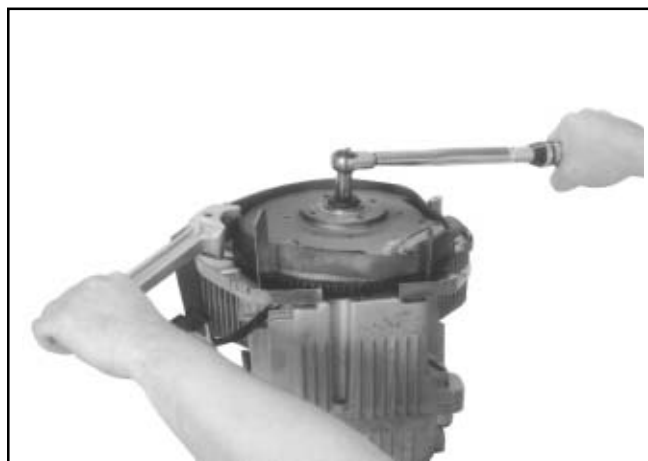

Figure 11-25. Installing and Torquing Flywheel Fastener.
4. Use a flywheel strap wrench or holding tool to hold the flywheel. Torque the hex. flange screw securing the flywheel to the crankshaft to **66.4 N·m (49 ft. lb.)**. See Figure 11-25.